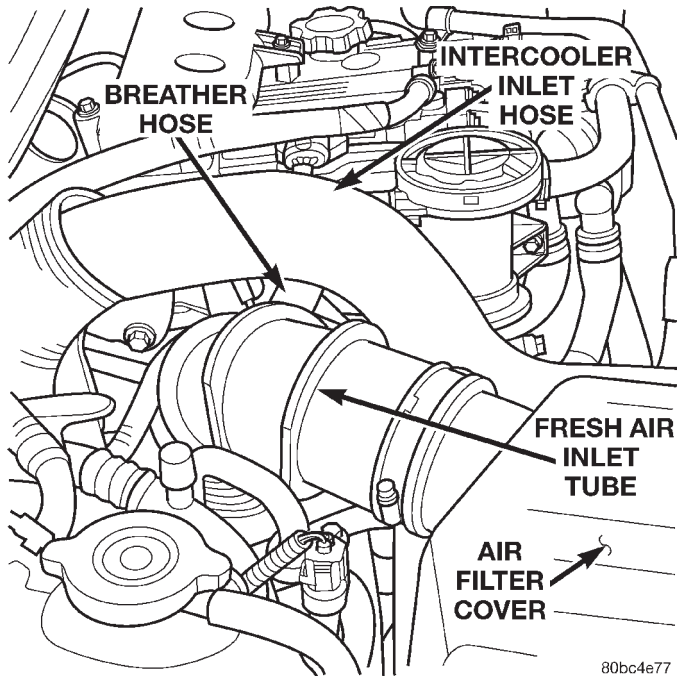

Fig. 9 Air Intake Hoses
- (27) Disconnect the breather hose and remove the fresh air inlet tube from the vehicle (Fig. 9).
- (28) Remove the radiator overflow hose from the radiator
- (29) Remove the upper radiator hose from the vehicle.
- (30) Disconnect the electric radiator cooling fan electrical connector.
- (31) If equipped, recover the refrigerant. Refer to Group 24, Heating and Air Conditioning for the procedure.